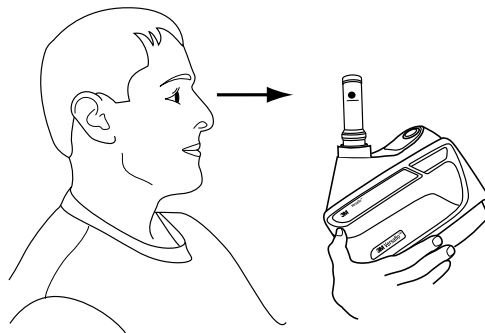

Fig. 14-2 Checking airflow
- With the airflow indicator in a vertical position, ensure that the bottom of the floating ball rests at, or above, the minimum flow mark for the 'letter' representing your 'Zone' (Fig. 14-2). Airflow indicator must be in the vertical position for an accurate reading.